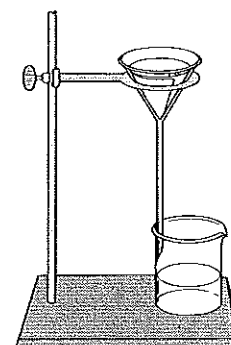

Figure 4.
17. Set up the ring stand and iron ring and place the funnel in the ring. Let the funnel drain into a second 400-mL beaker (see Figure 4).